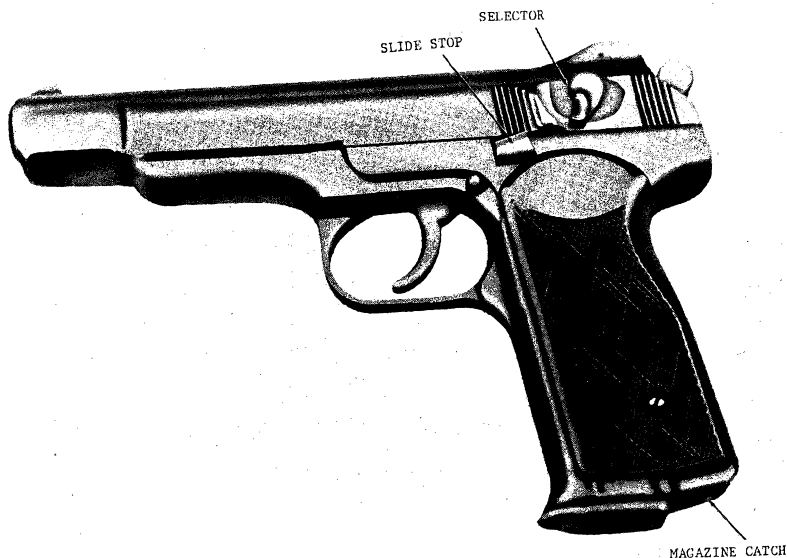

Figure 21. Soviet Stechkin machine pistol (APS).
a. Machine pistols resemble conventional pistols, but have one major distinguishing characteristic—a selective fire option; i.e., they can be fired either automatically or semiautomatically. In addition, these pistols usually have large-capacity magazines and some type of a shoulder brace or stock to aid in accurate long-range firing. The Soviet Stechkin machine pistol (fig 21) was issued in limited numbers, and although now obsolete, it may be in use by special units such as border guards, security police, or in countries given Soviet military aid.
- a. Insert the magazine into the pistol until the magazine catch (fig 21) retains the magazine.
- d. Position the selector (fig 21) for the type of fire desired—at **OD** for semiautomatic fire, at "ABT" for full-automatic fire, or at **HP** for safe.
f. Remove the magazine by pressing the magazine catch (fig 21) rearward and pulling the magazine out of the pistol. The slide can be closed by pressing the slide stop down or by pulling the slide rearward and releasing it.
d. The extractor holds the fired cartridge case to the face of the slide until the case strikes the ejector. The ejector, an extension on the slide stop (fig 21), expels the fired case from the pistol. The driving spring forces the slide forward; during the forward movement, a cartridge is loaded from the magazine into the barrel.